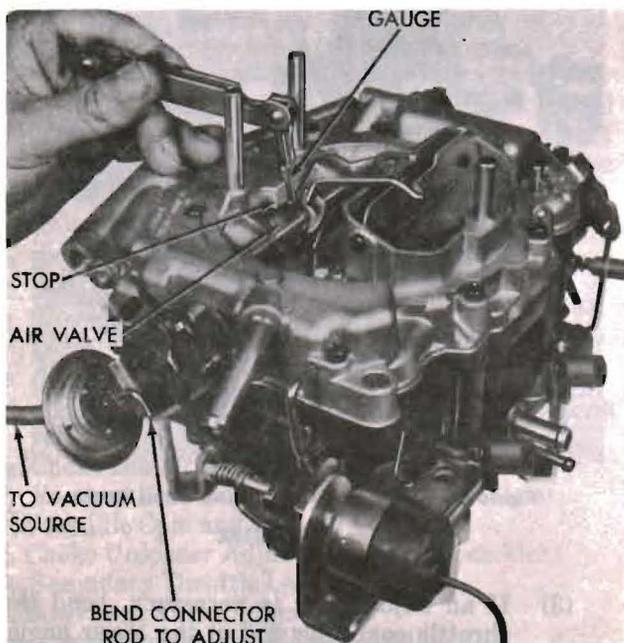

Figure 26. Adjusting Choke Diaphragm Connector Rod (Secondary Air Valve Control)—Slide 2194 & 2196
- (1) Make sure the diaphragm assembly is securely mounted on the carburetor. Apply a vacuum of 10 or more inches of Hg. to the diaphragm to fully depress the diaphragm stem.
- (2) With the air valve closed, adjust connector rod to provide clearance between air valve and stop as specified for the particular carburetor involved. (See figure 26.)